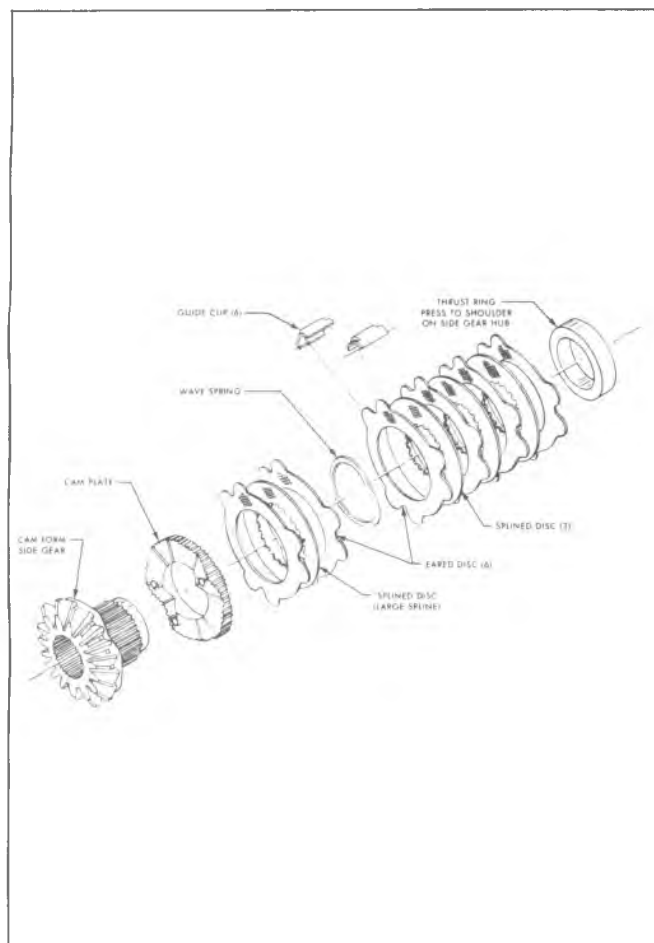

Fig. 4B-9H—Cam Plate and Clutch Discs
If cam plate or clutch discs must be replaced, the cam gear sub-assembly must be serviced as follows: Refer to Figure 4B-9H.
3. Assemble onto cam plate (2) eared discs, (1) splined disc, and (1) wave spring alternately as shown, Fig. 4B-9H.
4. Assemble onto gear hub: (4) eared discs and (3) splined discs alternately as shown. Begin and end with an eared disc.